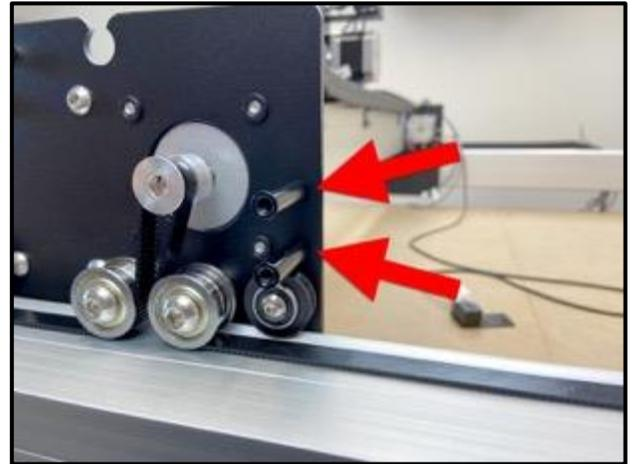

Figure 7-8
4. Install the two (2) male to female 30mm standoffs to the **OUTSIDE** of the Y2-rail. See *Figure 7-8*.